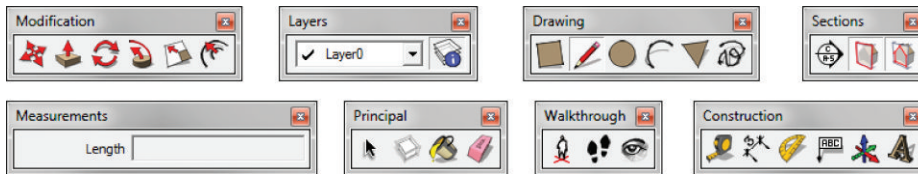

Figure 6.3 Suggested toolbars
- ☑ Monitors are enormous these days, so it is reasonable to allow yourself one row of toolbars across the top of your screen. Select View > Toolbars and open the following toolbars: Construction, Drawing, Layers, Measurements, Modification, Principal, Sections, and Walk-through (Figure 6.3). These toolbars are worth keeping open all the time. When you're performing specific tasks, you'll need to open other toolbars briefly, but you don't need to have them open at all times. Once you start working with your favorite tools, you'll be able to determine which toolbars you prefer to have open and accessible at all times.